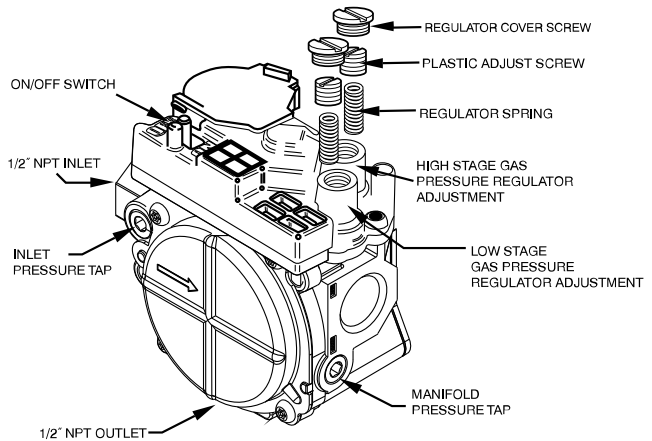

Fig. 39 – Two-Stage Gas Valve (208/230 VAC Models)
- Remove regulator cover screw(s) over plastic adjustment screw(s) on gas valve (see Fig. 39).
- Turn the high stage plastic adjustment screw clockwise to increase gas input and counterclockwise to decrease input (see Fig. 39). Manifold pressure must be between 3.2 and 3.8 IN. W.C. for high stage.
- Replace high stage regulator cover screw on gas valve (see Fig. 39).
- Turn the low stage plastic adjustment screw clockwise to increase gas input and counterclockwise to decrease input (see Fig. 39). Low stage manifold pressure must be between 1.4 and 2.0 IN. W.C.
- Replace low stage regulator cover screw(s) on gas valve (see Fig. 39).